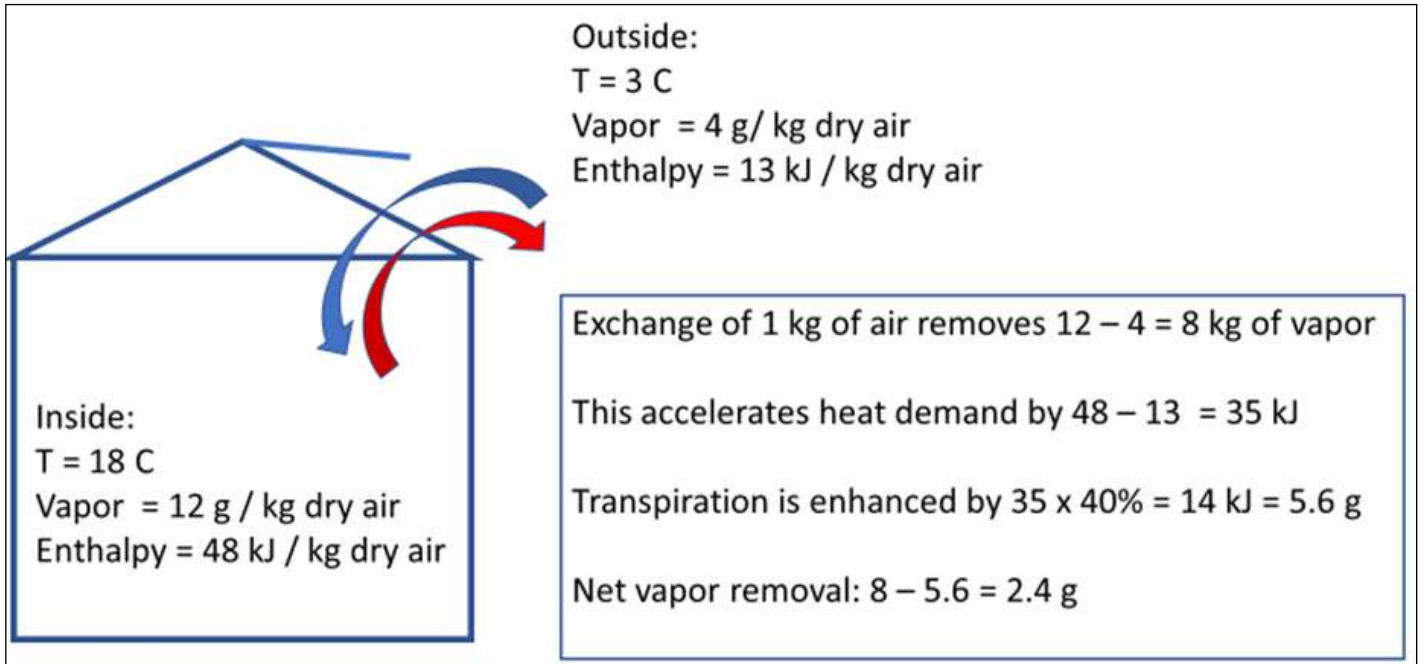

Figure 1. Water vapor removal efficiency via ventilation.
**Ventilation** is the most common tactic, but it offers the lowest level of control/effectiveness and is the most energy intensive. Air is heated so that it can hold more water vapor, but when the upper limit for both temperature and humidity are ultimately reached, indoor air is exchanged with cooler, drier outdoor air with either vents or exhaust fans. When ventilation is used, the cooling that is brought in must be compensated with heating to maintain temperature. Interestingly, heating, especially when delivered beneath the crop, induces the plant to transpire. In fact, about 40% of the energy that is delivered beneath the canopy to help to control humidity is immediately converted by the plant into water vapor. So, there is an escalating relationship or continuous cycle of ventilating, heating, and resulting transpiration (See Figure 1: Net water removal with Ventilation). This makes ventilation an energy-intensive method and creates the limitations of humidity levels that can be achieved. Further, this method creates a continuous cycle of overall rising and falling temperature profile as well as